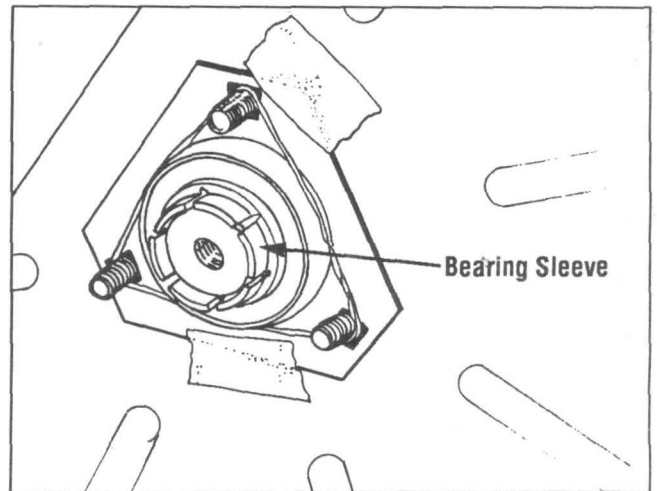

Fig. 22
B. With the slotted sleeve of the bearing facing outward, slide the bearing over the cylinder shaft until it is seated inside the recessed lip of the inner flangette (see Fig. 22). Be